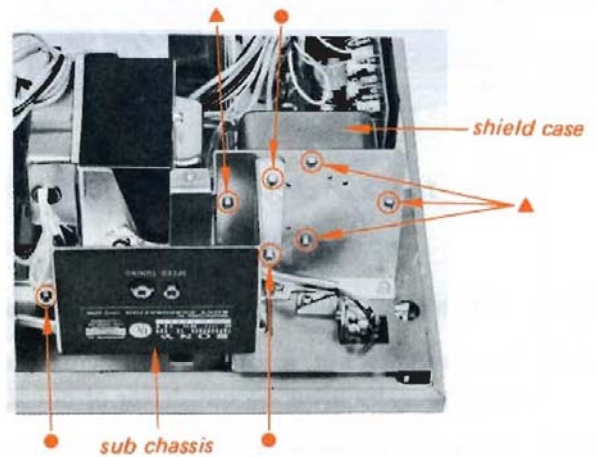

Fig. 8-12 Sub chassis and shield case removal
- (1) Remove the sub chassis by unscrewing the three screws marked with ● in Fig. 8-12.
- (2) Remove the shield case by unscrewing the four screws marked with ▲ in Fig. 8-12.